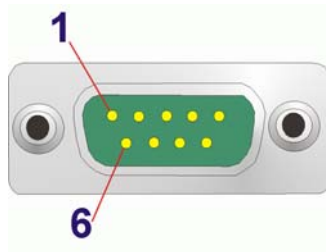

Figure 3-24: Serial Port Pinout Locations
- CN Pinouts:** See **Table 3-25** and **Figure 3-24**